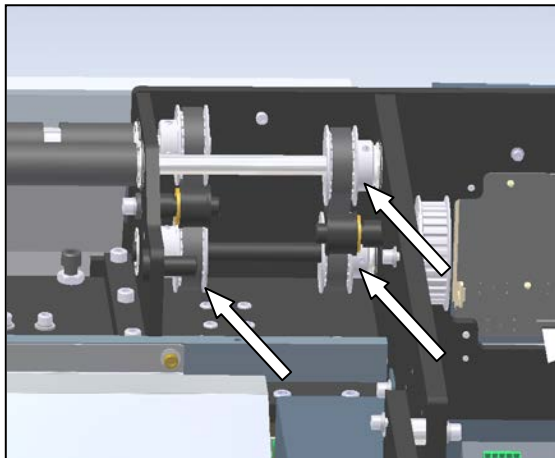

Figure 3-160. Drive Pulleys
4. Loosen the set screws on the three pulleys identified in Figure 3-160.